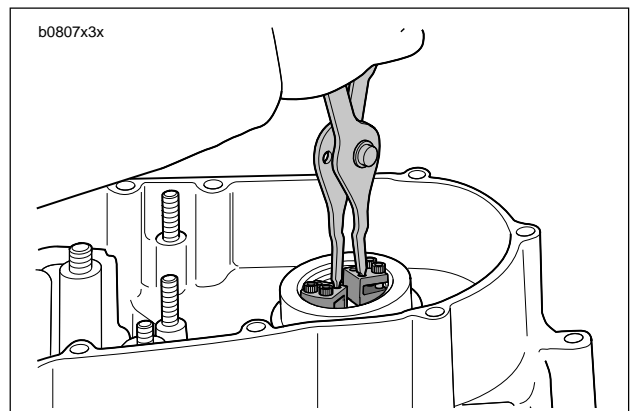

Figure 3-82. Remove Snap-Ring From Crankcase Bore
- e. See Figure 3-82. Inserting the tips of a large retaining ring pliers (Snap-On PR-56A) into one hole in each claw, compress the retaining ring and remove it from the crankcase bore.